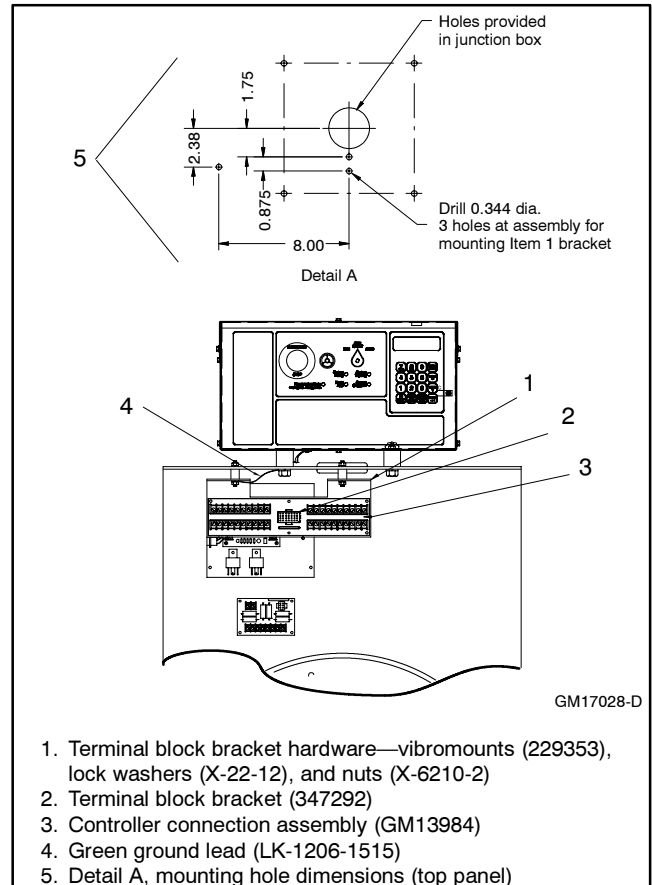

Figure 3 Terminal Block Bracket and Controller Connection Assembly Mounting (350/400 kW)
- 2.2.2 Remove the four screws attaching the controller to the junction box. See Figure 3.
- 2.2.3 Mark the drill hole locations where the terminal block bracket (347292) mounts to the junction box top panel using the dimensions given in Figure 3.
- 2.2.6 Attach three vibromounts (229353) to the terminal block bracket (347292) using three lock washers (X-22-12) and nuts (X-6210-2). Attach one end of green ground lead (LK-1206-1515) between terminal block bracket and nut. See Figure 3.